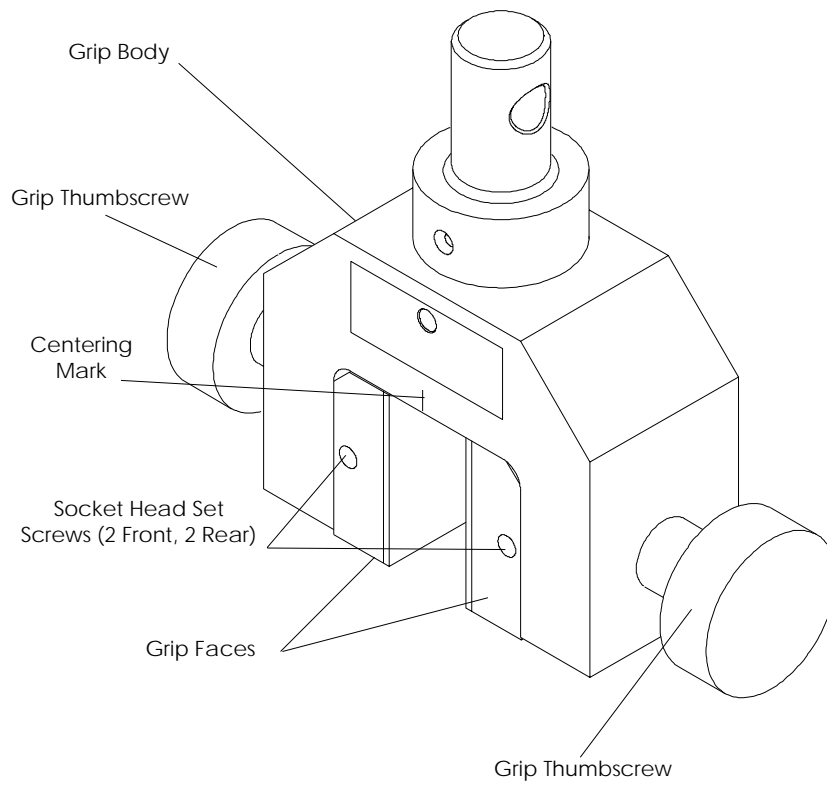

Figure 4-2. Screw Grip Operation
- (b) If other grip faces are already installed in the grips, remove them by loosening the two socket head set screws in the sides of each grip face (four screws, in all), using the 1.5 mm hex wrench supplied with the grips. See Figure 4-2.